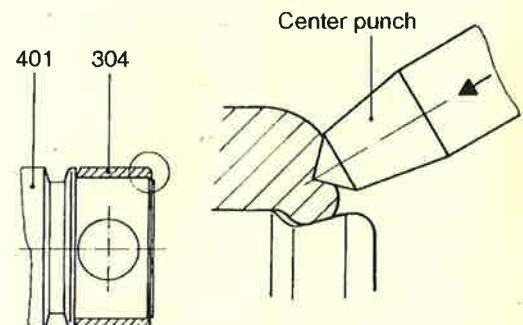

Figure 8: Securing the joint sleeve
- Slide the joint clamps (306), the joint collar (308) and the joint sleeve (304) onto the shaft of the joint shaft (307).
- Slide the joint shaft (307) into the head of the rotor (401) respectively the plug-in shaft (125).
- Slide the joint bolt (301) into the joint bush (302) and completely drive in the sleeves for the joint bolts (303).
- Emery the joint sleeve (304) until smooth at the outer diameter if required and pull onto the head of the rotor (401) respectively the plug-in shaft.
- After pulling on the joint sleeve (304), secure this against axial shifting on the head of the rotor (401) respectively the plug-in shaft (125).
**ATTENTION** To do so, drive the end of the joint sleeve (304) with a puncher blow into the groove at the head of the rotor (401) respectively the plug-in shaft (125) (see figure 8).